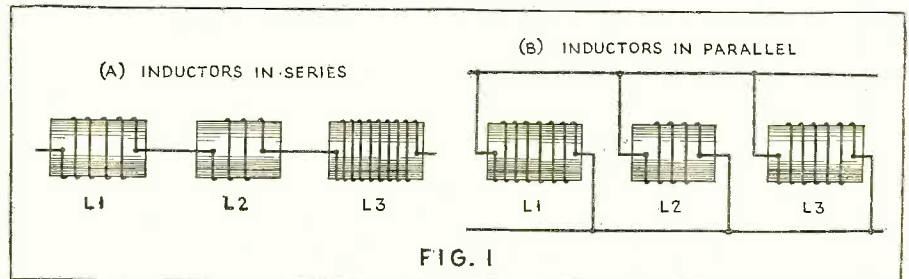

FIG. 1
When inductors are connected in parallel with each other as in (B) of Figure 1, their combined inductance is found from the formula: